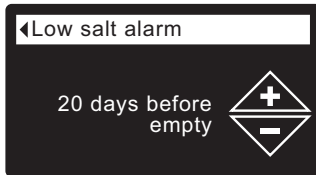

FIG. 38
5. Press the SELECT (O) button to display the Low salt alarm screen (See Figure 38).